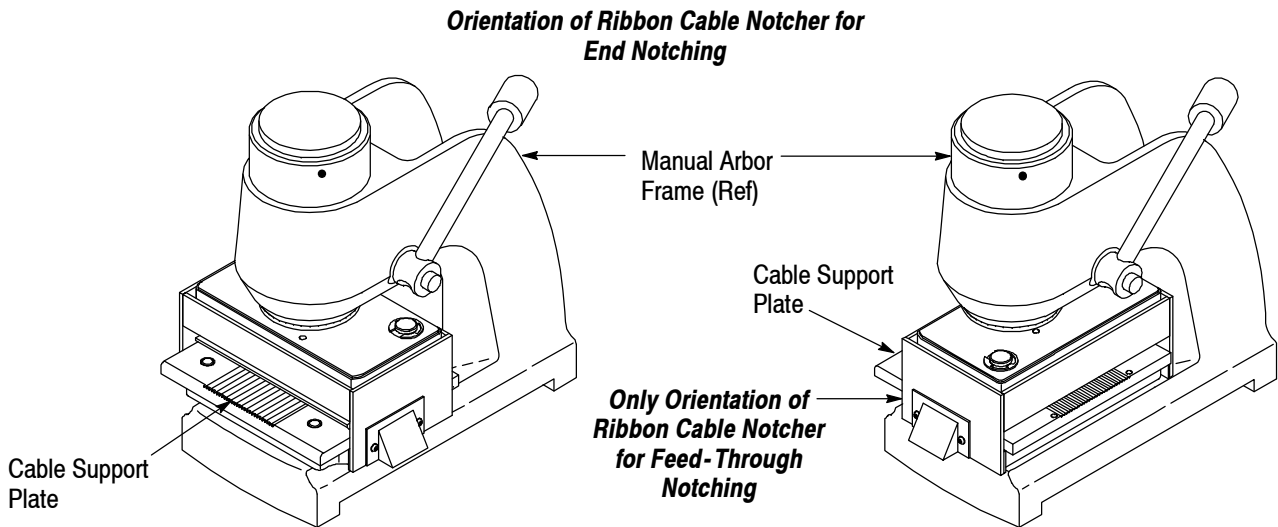

Figure 3
3. Place the notcher on the base of the frame, oriented according to type of notching. Refer to Figure 3. Install the four socket head cap screws onto the notcher from the underside of the frame.
Make sure that the notcher is oriented in the power unit as shown in Figure 3.